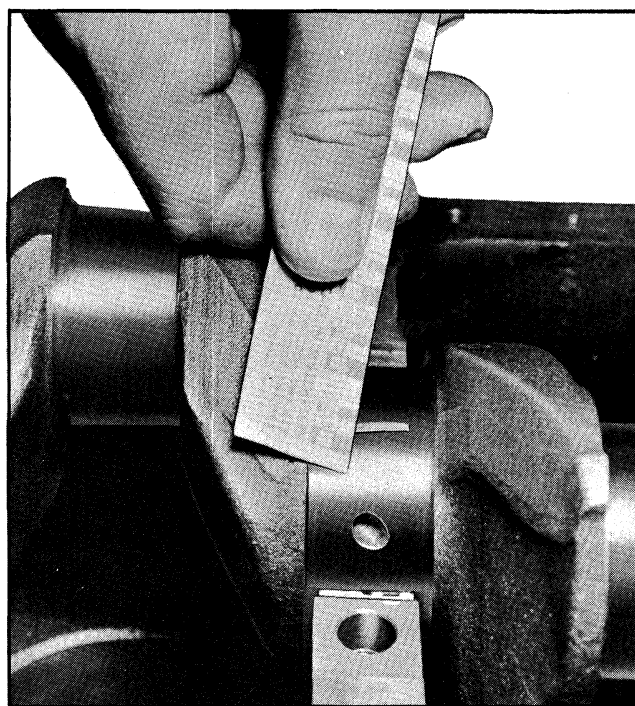

Fig. 6-59 Measure Plastigage
4. Remove bearing cap and using Plastigage scale on envelope measure width of compressed Plastigage before removing it from the bearing or journal (Fig. 6-59). If the bearing clearance is between .0005" and .0025" the clearance is satisfactory. If the clearance is more than .0025" replace the bearing with the next undersize bearing and recheck clearance. Bearings are available in standard size, .001" and .002" undersize.